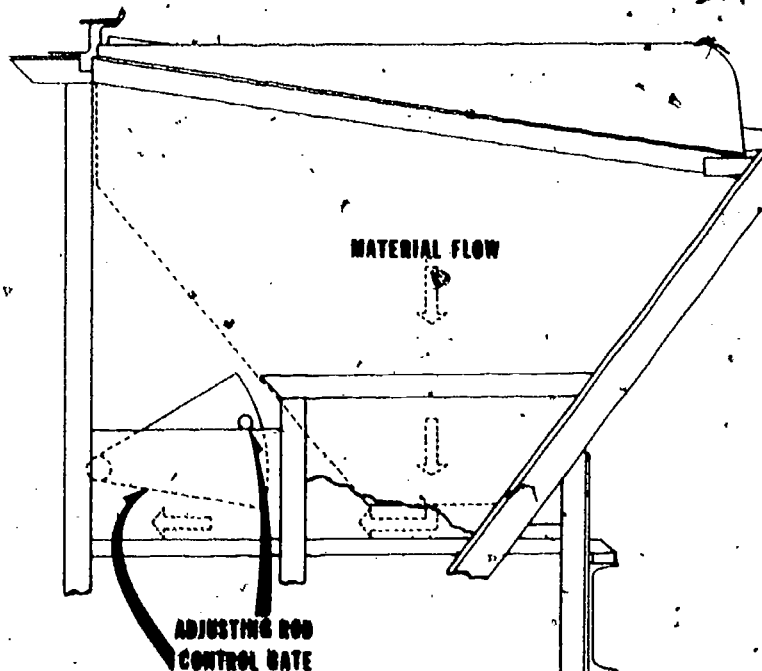

Fig 6-19. Mechanical feeder gate control.
- (5) Mechanical feeder gate control (fig 6-19). The control gate can be set to deliver a uniform flow of material by adjusting it up or down with the adjusting rod.